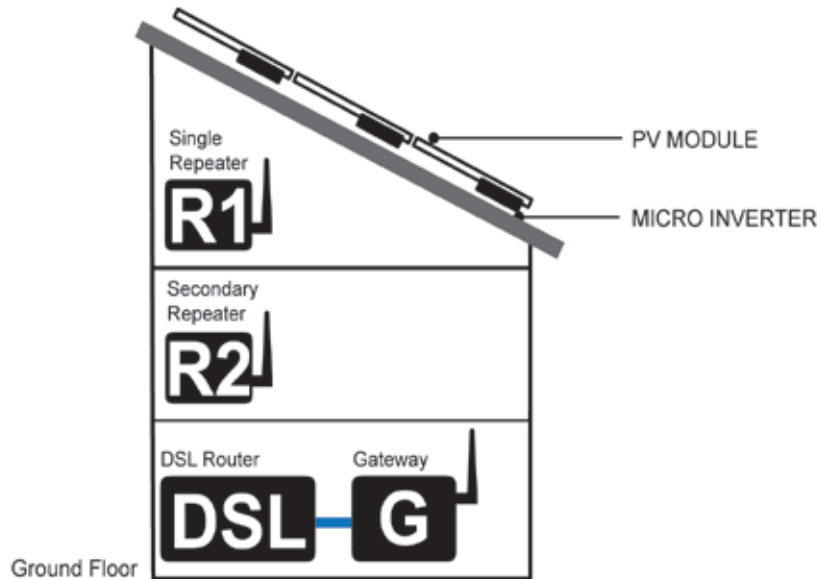

Figure 15. Repeaters, Gateway, and Router
- Install the single repeater in the roof space, directly below the micro inverters. See “Figure 15. Repeaters, Gateway, and Router” on page 20.